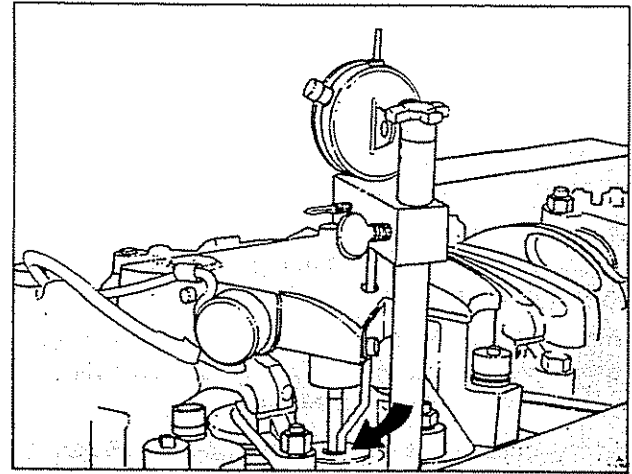

Fig. 2-53, (OM1061L). Dial indicator in place — extension in contact with plunger
2. Install 3375004 Dial Indicator Assembly to the rocker housing, (3375005) extension must go through the opening in the Jacobs Brake housing and contact the injector plunger top, Fig. 2-53.
3. Screw the injector lever adjusting screw down until the plunger is bottomed in the cup, back off approximately 1/2 turn then bottom again, set the dial indicator at zero (0).